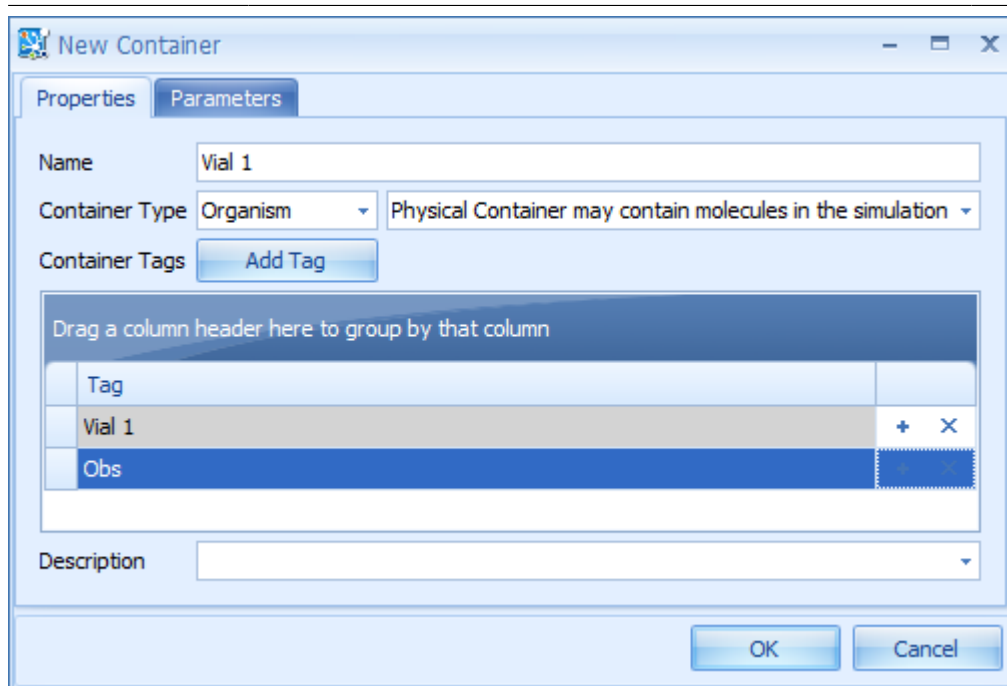

Figure 25.4. New Container window
6. Click the **Add Tag** button below the Container Type. You are asked for a tag name. Enter "Obs" as a tag name. The window should now look like in Figure 25.4.